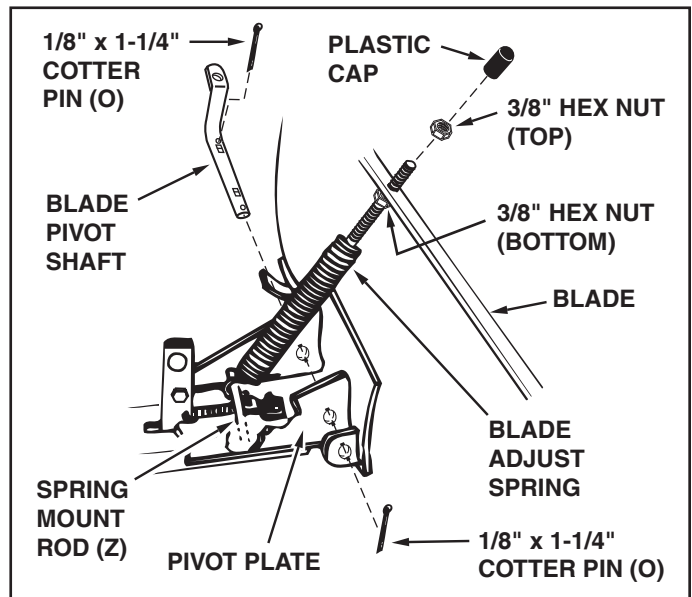

FIGURE 15 (Right Hand Side View)
STEP 15: (SEE FIGURE 15)
- The tension of the blade adjust spring may be altered to permit the blade to tilt forward to bypass solid obstructions. To change the spring tension, adjust the nuts at upper end of the spring bolt. Turn the nuts counterclockwise to relieve tension and clockwise to increase tension. Refer to figure 15 on page 10.